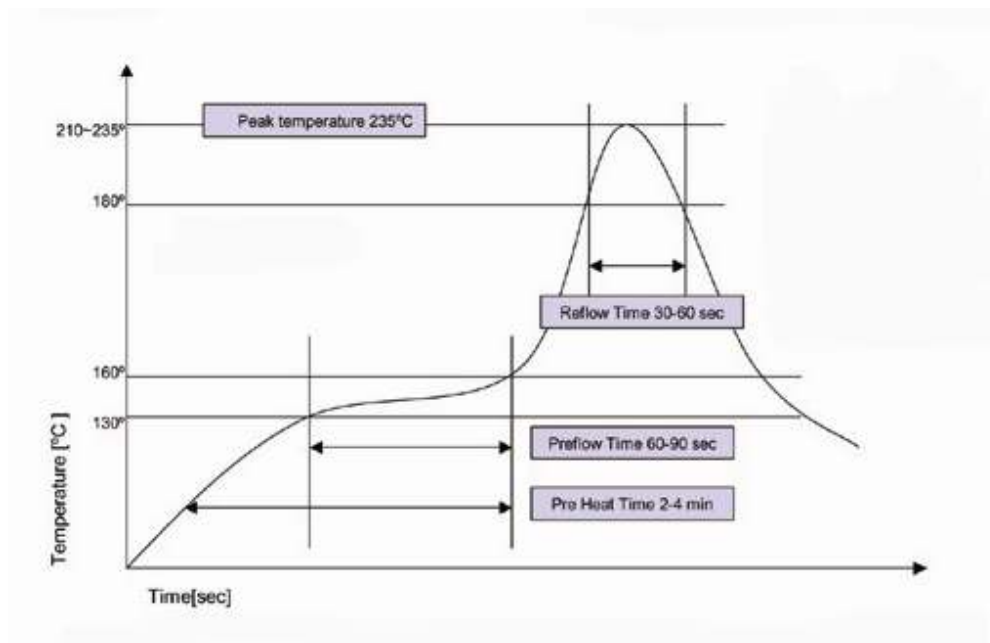

Figure 6 – Low Temperature Solder Reflow Thermal Profile
**Reflow:** The surface mount coupler is conducive to most of today's conventional reflow methods. Low and high temperature thermal reflow profiles are shown in Figures 6 and 7, respectively. Manual soldering of these components can be done with conventional surface mount non-contact hot air soldering tools. Board pre-heating is highly recommended for these selective hot air soldering methods. Manual soldering with conventional irons should be avoided.